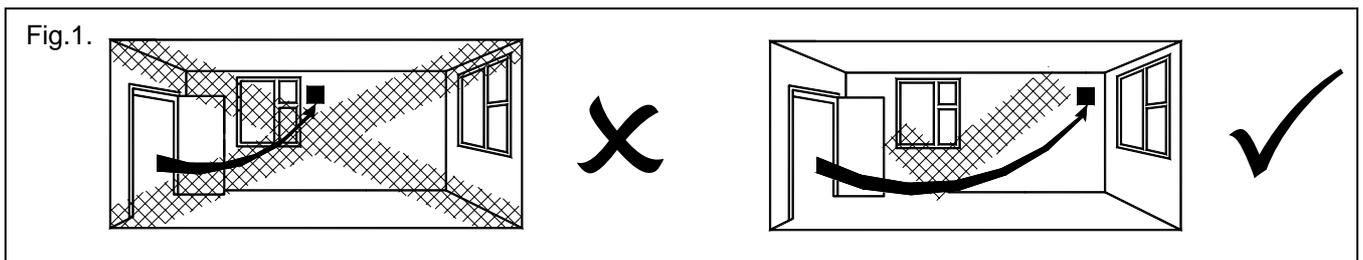

Fig.2 Models: 100B/150B, 100HT/150HT (Timer not used)
1. Select and follow the appropriate wiring diagram. (Fig. 2 or 3)